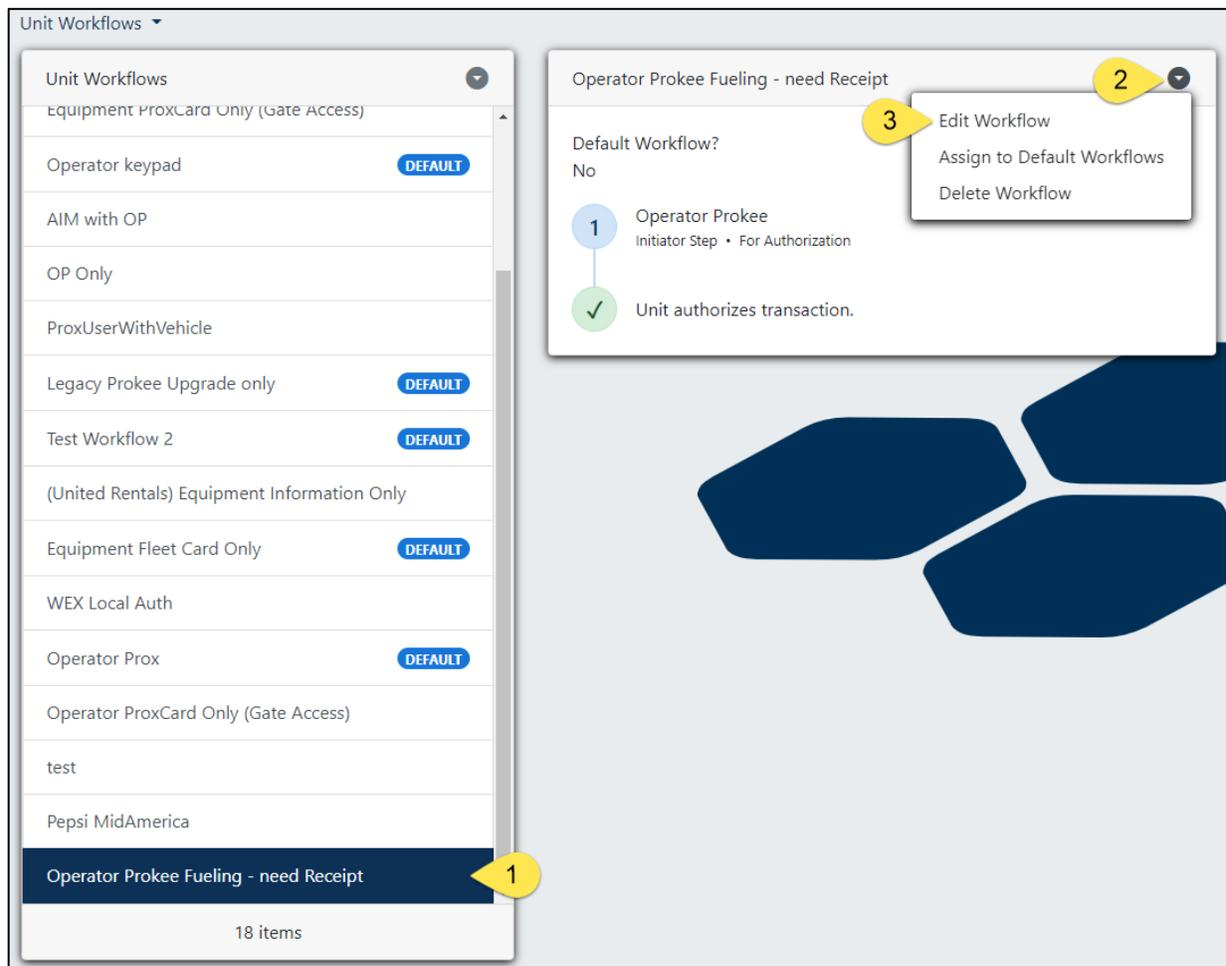

Figure 6. Unit Workflow Screen
1. Select the **Unit Workflow** you would like to edit (Figure 6).